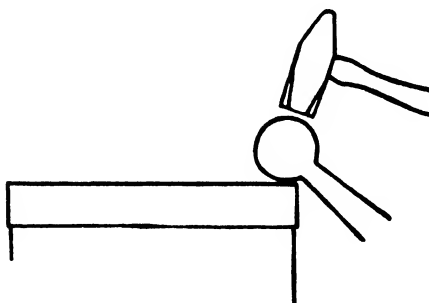

FIG. 33
9. Turn the eye portion on the edge and hammer around the circumference until it is perfectly round. Fig. 33.